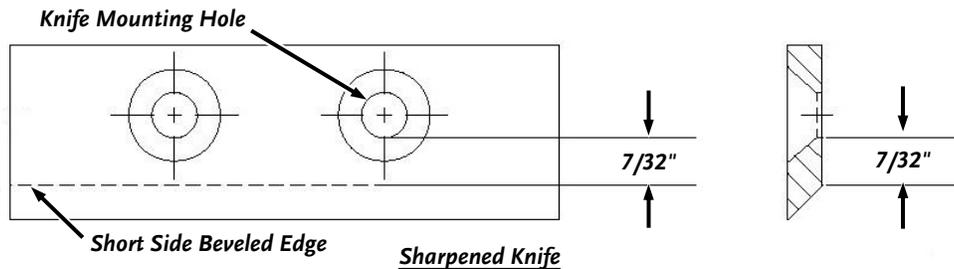

Figure 42
- Once this measurement is below $7/32"$ (**Figure 42**), or if you are unable to remove dents or gouges with these guidelines, replace the Knife.